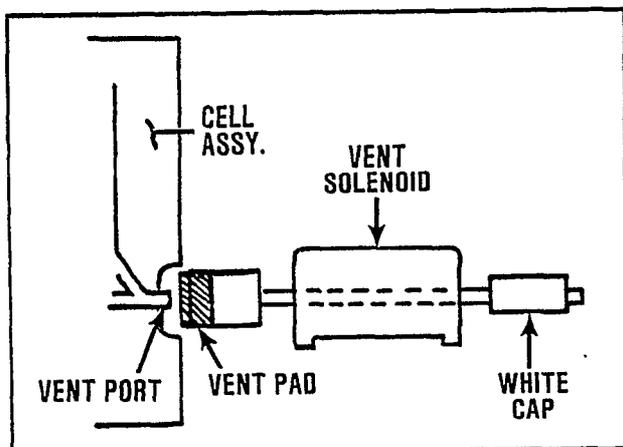

Figure 4-18. Vent Solenoid Alignment
3. While holding the vent solenoid arm back, use the white cap on the right end of the vent solenoid arm, and slide the vent solenoid assembly so that the vent pad on the end is parallel with the right side of the cell assembly. (This is the open position of the vent solenoid aligning the proper throw length; see Figure 4-18.)